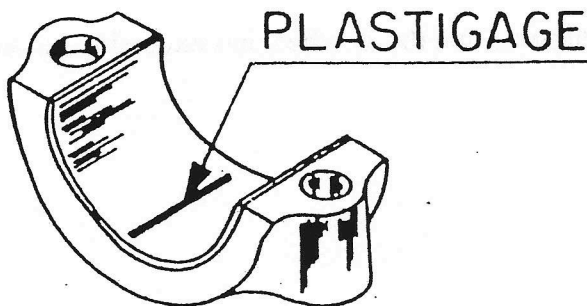

FIGURE 1
2. Place a piece of Plastigage the full length of the bearing insert about  $\frac{1}{4}$ " off center. (Figure 1.)